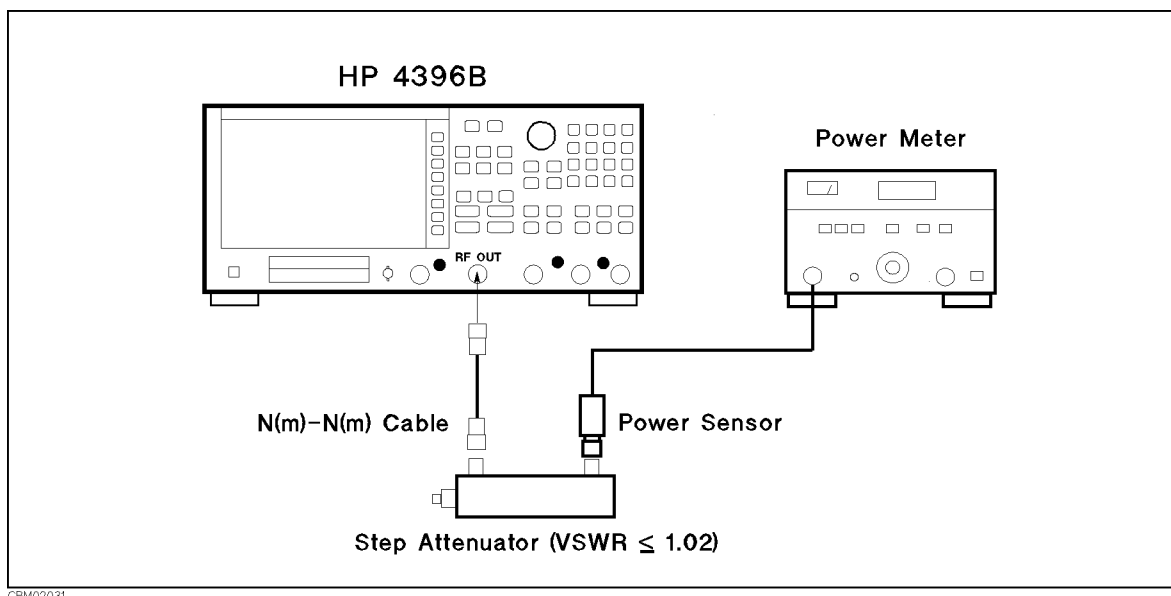

Figure 2-3. Non-sweep Power Linearity Test Setup
4. Connect the test equipment as shown in Figure 2-3.